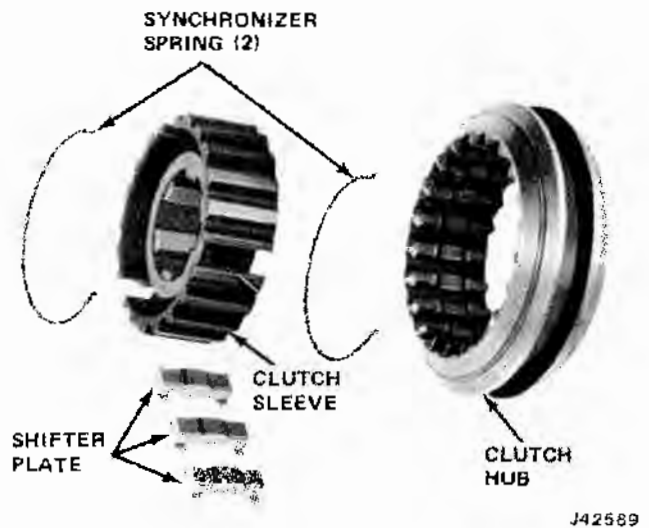

Fig. 6-12 Second-Third Synchronizer Assembly
- (1) Remove springs (one on each side of unit).
- (2) Mark sleeve and hub before separating to ensure proper installation at assembly.
- (3) Remove hub from sleeve.
- (4) Remove three synchronizer plates from third-speed side of hub.
- (5) Clean and inspect synchronizer assembly parts.
- (6) Assemble synchronizer in reverse order of disassembly, making certain the two synchronizer spring openings are installed 120 degrees opposite each other, with spring tension opposed (fig. 6-12).